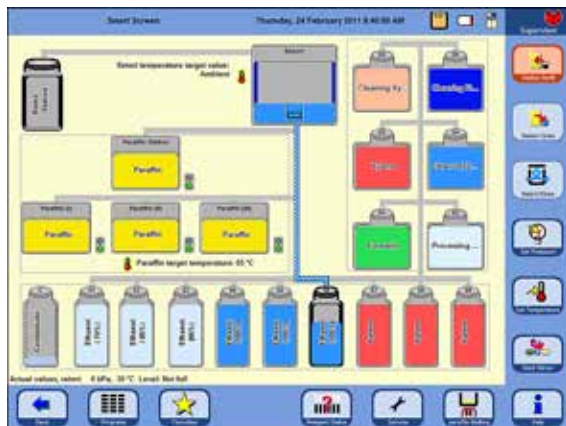

Fig. 171
- The entire operation is displayed graphically on the screen (**SMART FUNCTIONS** view) (Fig. 171).